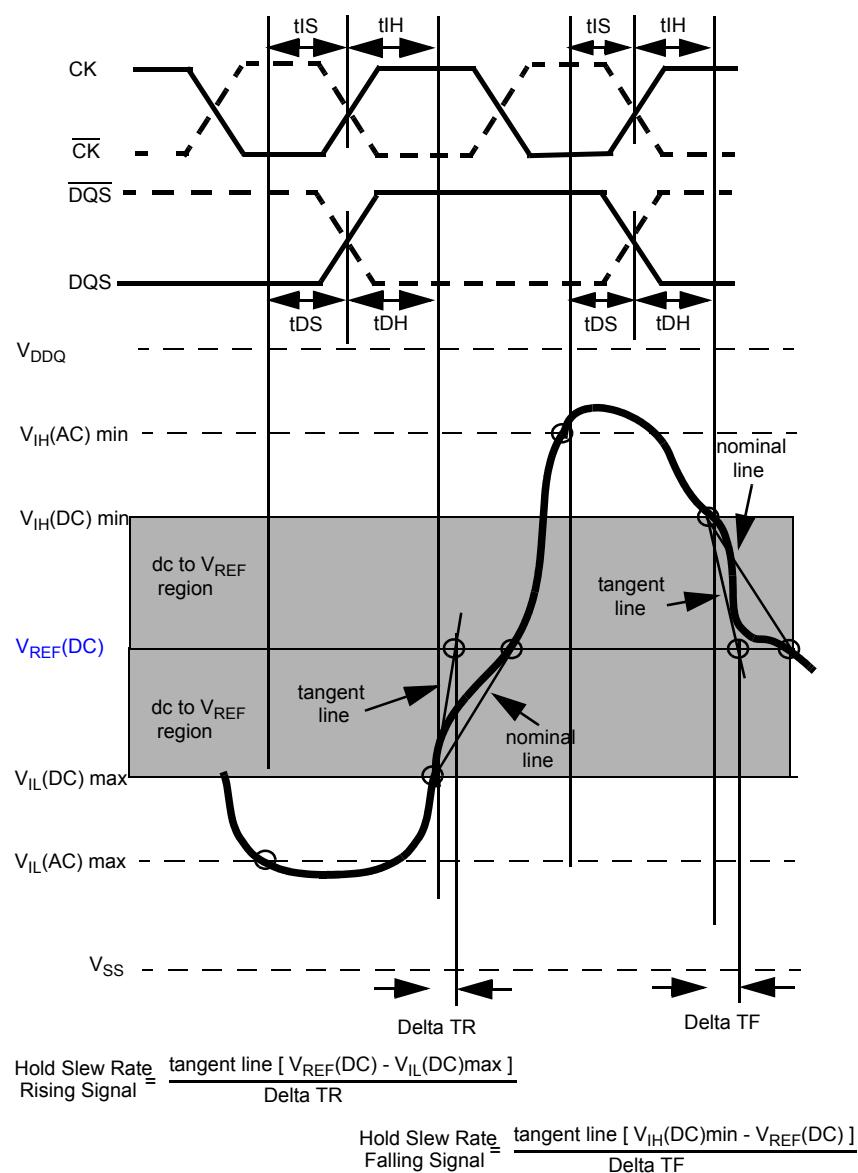

Figure 24 - Illustration of tangent line for hold time t_{DH} (for DQ with respect to strobe) and t_{IH} (for ADD/CMD with respect to clock)
Hold (tIH) nominal slew rate for a rising signal is defined as the slew rate between the last crossing of $V_{IL}(DC)_{max}$ and the first crossing of $V_{REF}(DC)$. Hold (tIH) nominal slew rate for a falling signal is defined as the slew rate between the last crossing of $V_{IH}(DC)_{min}$ and the first crossing of $V_{REF}(DC)$. If the actual signal is always later than the nominal slew rate line between shaded 'dc to V_{REF}(DC) region', use nominal slew rate for derating value (see Figure 24). If the actual signal is earlier than the nominal slew rate line anywhere between shaded 'dc to V_{REF}(DC) region', the slew rate of a tangent line to the actual signal from the dc level to V_{REF}(DC) level is used for derating value (see Figure 26).